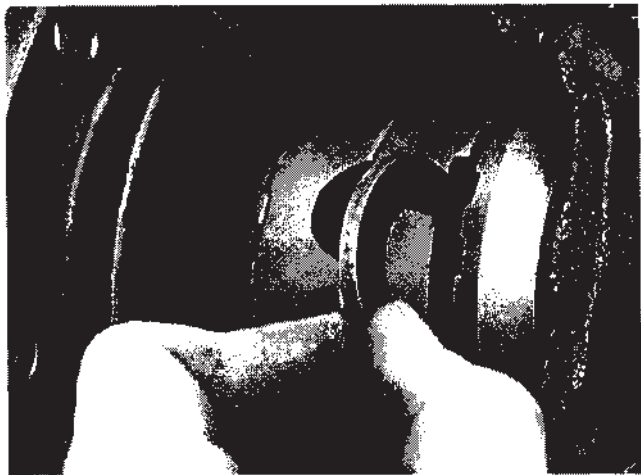

Figure 5
b. Place the other driver assembly in the differential case. Push it to the **left**, touching the other driver (**Figure 5**).
f. Slide the other C-Clip through the recess in the teeth and into the groove in the axle shaft end (**Figure 5**).